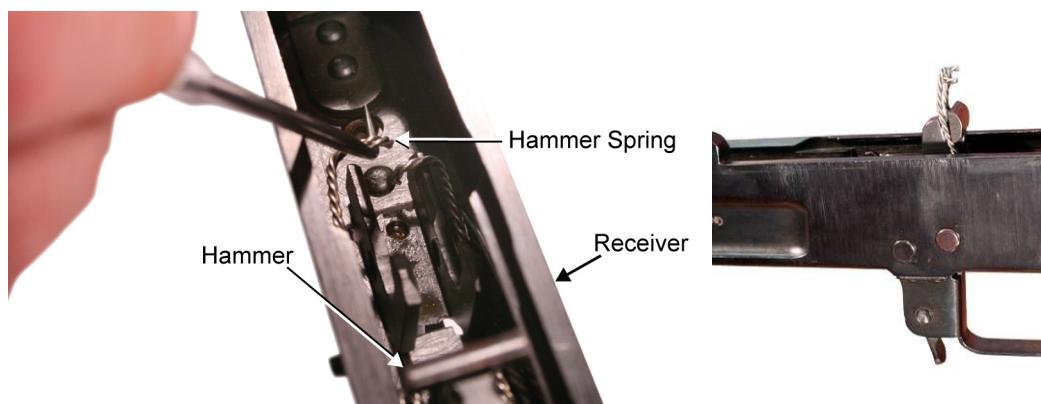

Figure 20. Placing the Ends of the Hammer Spring Behind the Hammer.
g. Using needle-nose pliers or the curved scraper tool, pull the ends of the hammer spring behind the hammer. If necessary, secure the ends with wire. Refer to Figure 20.